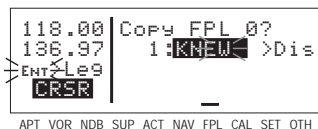

Figure 4-3
6. Use the above procedure to select the entire identifier for the first waypoint (figure 4-3).